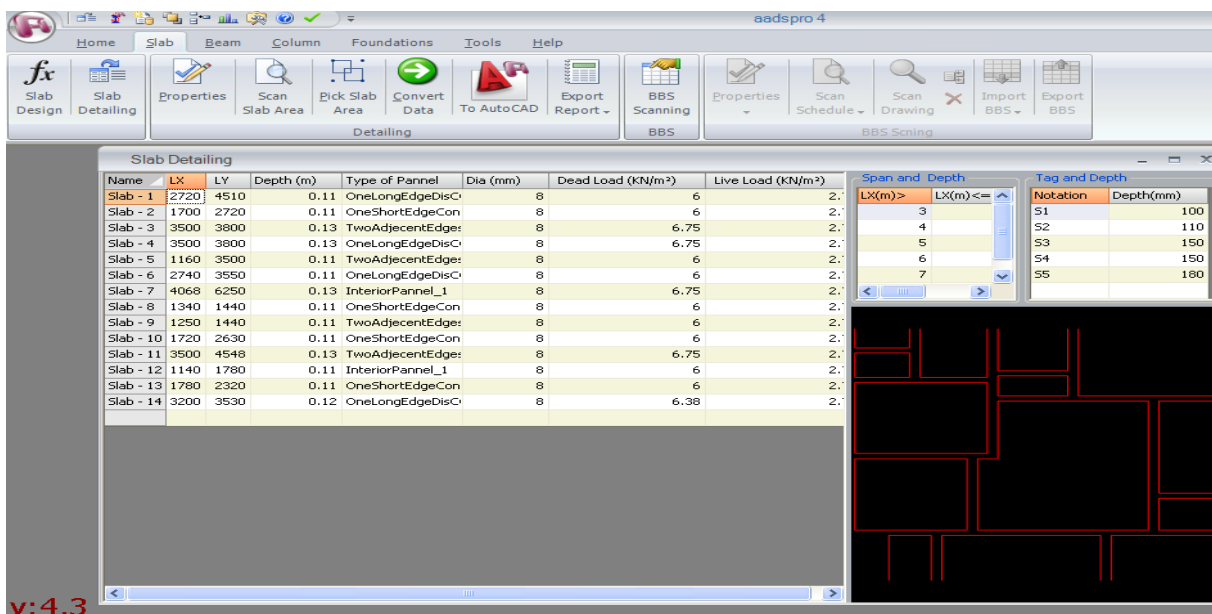

Fig 7.1.7
1.3.3 Click on the **Convert data** from tool bar (fig 7.1.7)